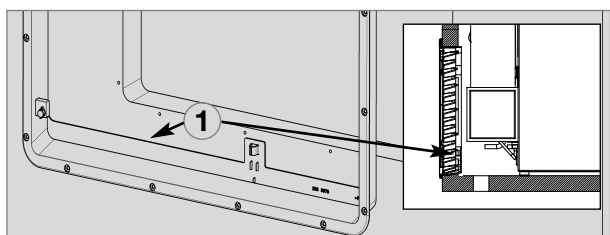
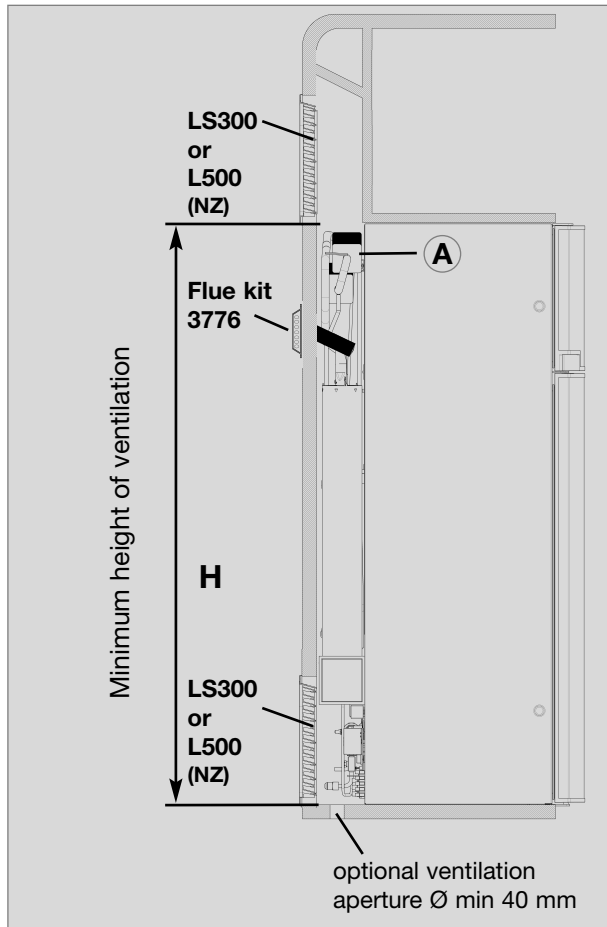

Fig. 9
Fig. 11
**The upper ventilation grille should be positioned as high as possible above the condenser (A, Fig. 11) . Install the lower ventilation grille at floor level of the vehicle (Fig. 9), allowing unburnt gas (heavier than air) to escape directly into the open air. The gas burner must be located above the edge (1, Fig. 9) .**